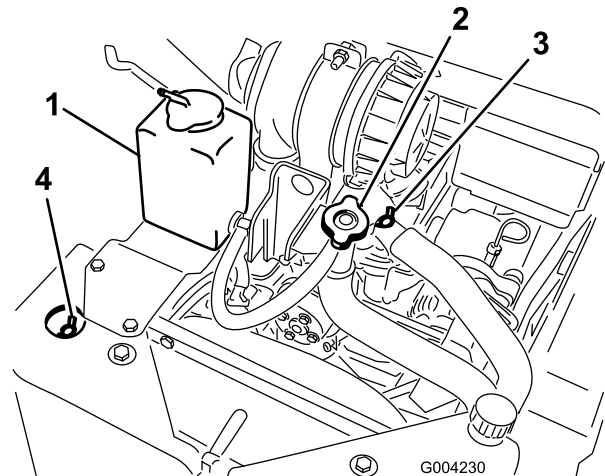

Figure 21
- A. Remove the coolant-fill cap (Figure 21).
- B. Open the front and top coolant-bleed valves (Figure 21).
- C. Pour coolant into the coolant filler neck until the coolant begins to come out of the front coolant-bleed valve (Figure 21).
- D. Close the front coolant-bleed valve (Figure 21).
- E. Pour coolant into the coolant filler neck until the coolant begins to come out of the top coolant-bleed valve (Figure 21).
- F. Close the top coolant-bleed valve (Figure 21).
- G. Pour coolant into the coolant filler neck until the coolant level comes into the filler neck (Figure 21).
- H. Install the coolant-fill cap (Figure 21).
- I. Add coolant into the expansion tank until it reaches the Full line on the side of the tank (Figure 21).